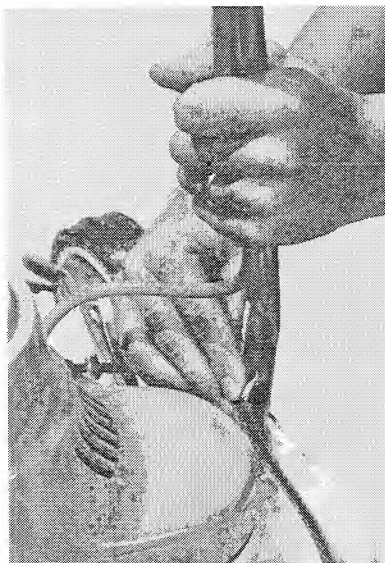
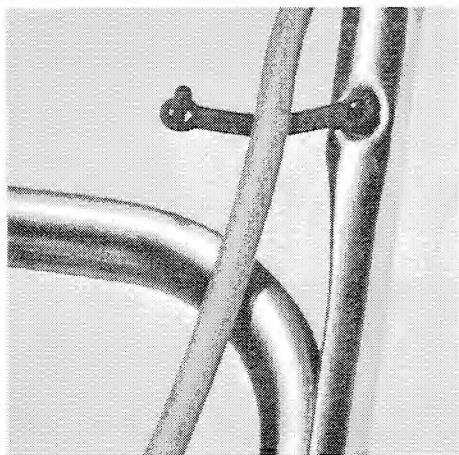
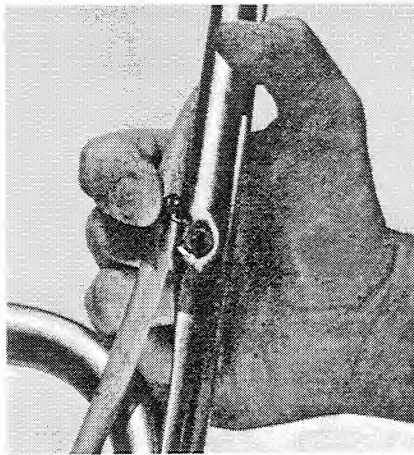

FIGURE 8A
FIGURE 7A
FIGURE 7B
- (4) Three plastic straps are used to hold the power cord and the safety latch cable close to the handle at locations indicated by arrows in Figure 6. To attach, push the larger of the two pegs on the straps into the hole in handle tube (Figure 7A). Push the strap around the cord and snap the smaller peg into the hole in the larger peg (Figure 7B).
- (5) Grasp lower handle tubes and lift mower out of carton.
- (6) Swing the handle to a vertical position and insert the "S"-Hook on the safety shield cable into the slot near the bottom of handle (Figures 8A and 8B).